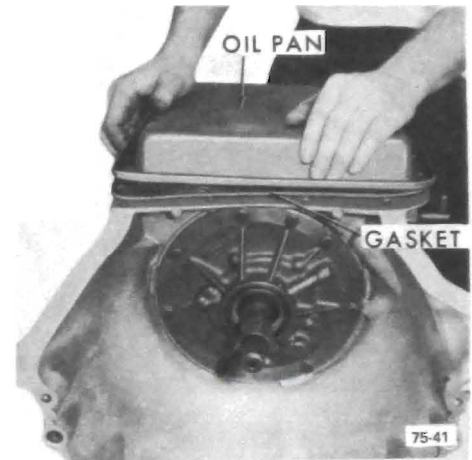

Figure 75-67
1. Remove (13) oil pan attaching screw and washer assemblies, oil pan, and gasket. See Figure 75-67.